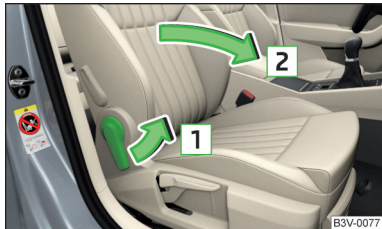

Fig. 76
- › Place the lever in position **1** » Fig. 76.